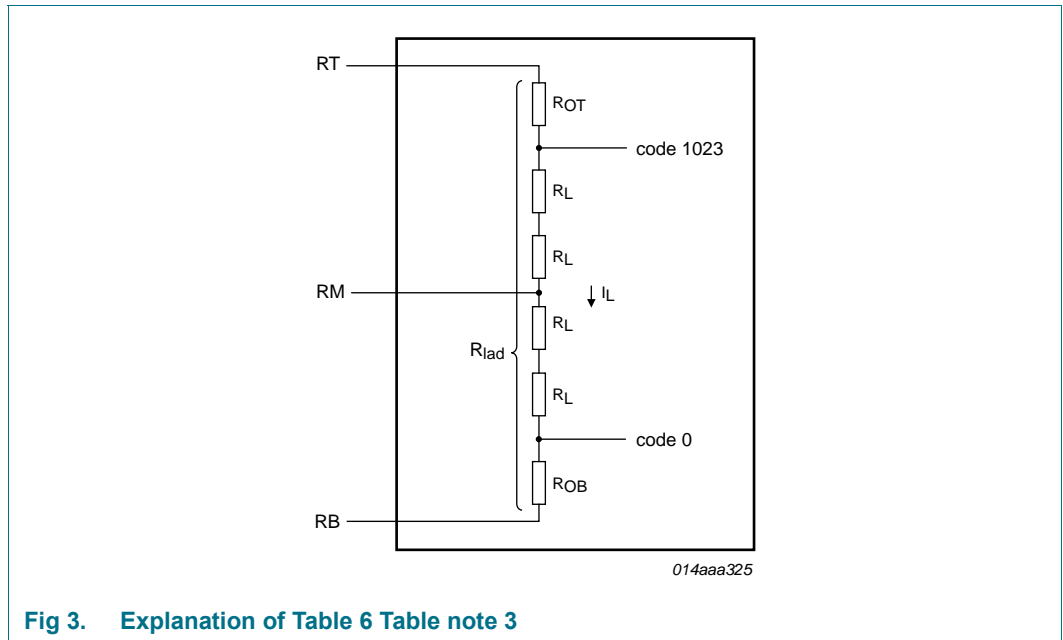

Fig 3. Explanation of Table 6 Table note 3
- [3] In order to ensure the optimum linearity performance of such converter architecture the lower and upper extremities of the converter reference resistor ladder (corresponding to output codes 0 and 1023 respectively) are connected to pins RB and RT via offset resistors R_{OB} and R_{OT} as shown in Figure 3.